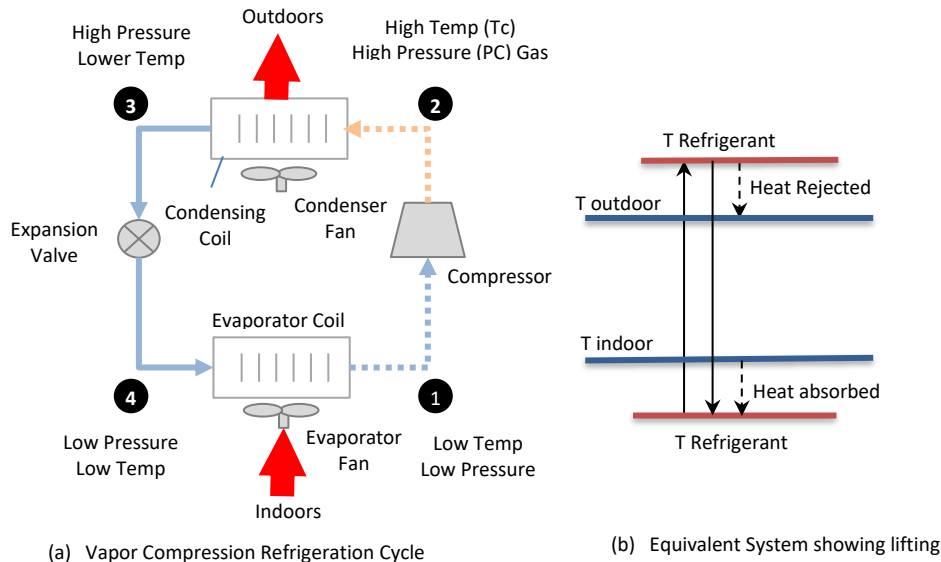

Figure 2-6 (a) Vapor Compression Cooling (DX cooling), (b) equivalent lifting system
The most frequently used refrigeration/Heat Pump thermodynamic cycle is the *Vapor Compression Refrigeration System* (VCRS) shown in Figure 2-6 (a). The cycle involves four processes: (1) compression, (2) condensing, (3) expansion, and (4) evaporation.